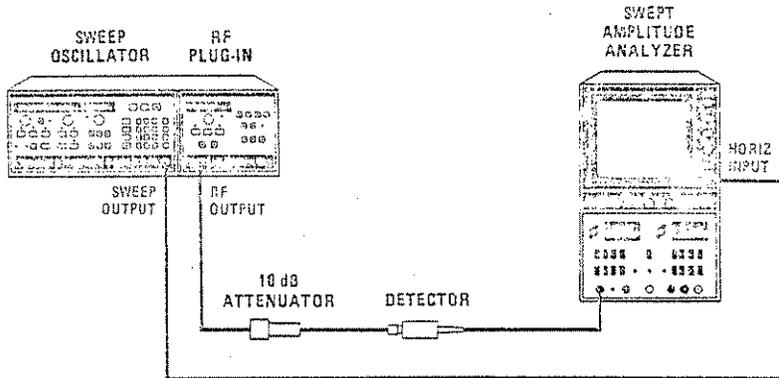

Figure 5-36. Power Sweep Test Setup
1. Connect equipment as shown in Figure 5-36. On the 8350A, press [INSTR PRESET] [MOD]. Allow the equipment to warm up for 1 hour.